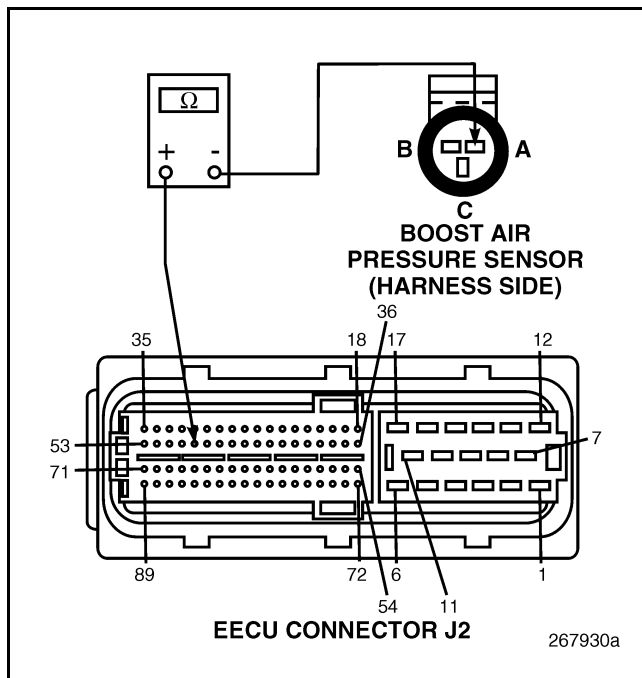

Figure 191
4. Check for continuity between BAP Sensor harness connector pin A (ground line) and EECU harness connector J2 pin 49 (see Figure 191).